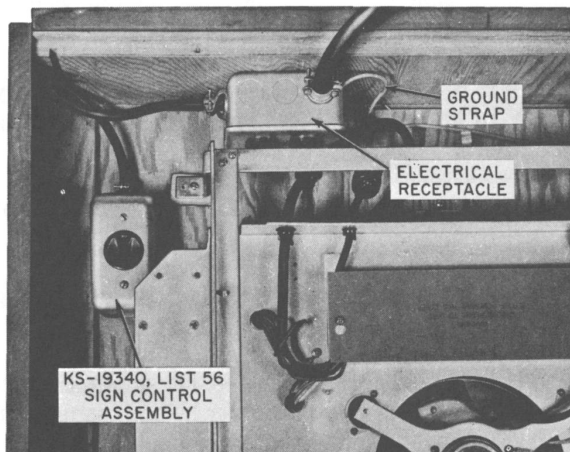

Fig. 6—Location of Sign Control Assembly
- (5) Remove the cover from the receptacle housing of the sign control assembly.
- (6) Secure the sign control assembly in the position shown in Fig. 6 with the switch plunger protruding through the hole drilled in (4).
- (7) Secure the receptacle housing to the ceiling using two No. 10 by 3/8 RH wood screws.
- (8) Connect the cable of the sign control assembly to the electrical receptacle (Fig. 6).
- (9) Install the roof on the booth using four No. 9 by 1-inch FH wood screws.
A ground wire (Fig. 6) (No. 14 gauge) is connected between the ground terminal of the electrical receptacle and the backboard. The purpose of this ground wire is to prevent exposing customers to electric shock from defective current-carrying coin telephone mounted in the booth. Verify that there is continuity between the ground terminal in the electrical plug and the coin telephone.